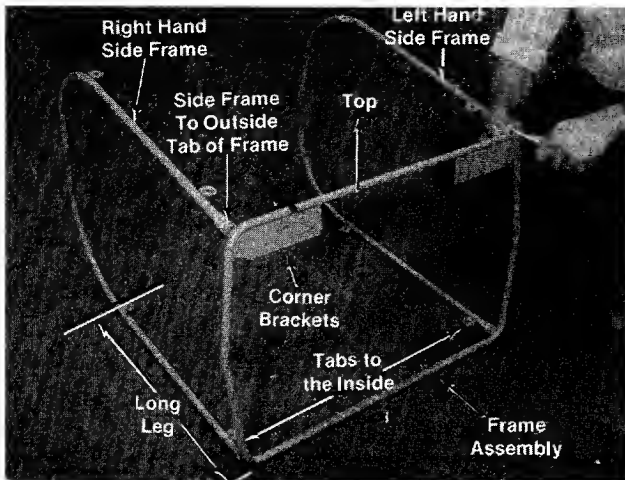

FIGURE 8.
1. Place the frame assembly with corner brackets up as shown in figure 8.
2. Fasten the right and left hand frame sides to frame with four hex bolts (I) and hex locknuts (D) provided. See figure 8. Tighten nuts and bolts with $\frac{7}{16}$ " wrenches.
Right and left hand side frames are determined by the long leg of side frame to the bottom and tabs to the inside. Also when assembling side frames to frame, the side frames are to the outside of frame assembly tabs. See figure 8.